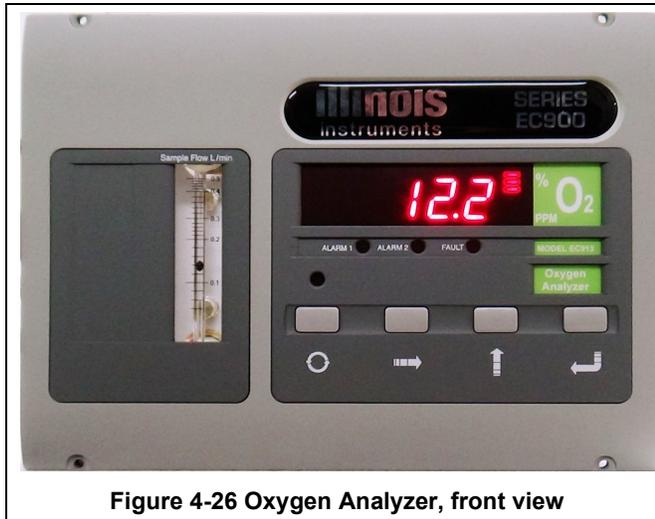
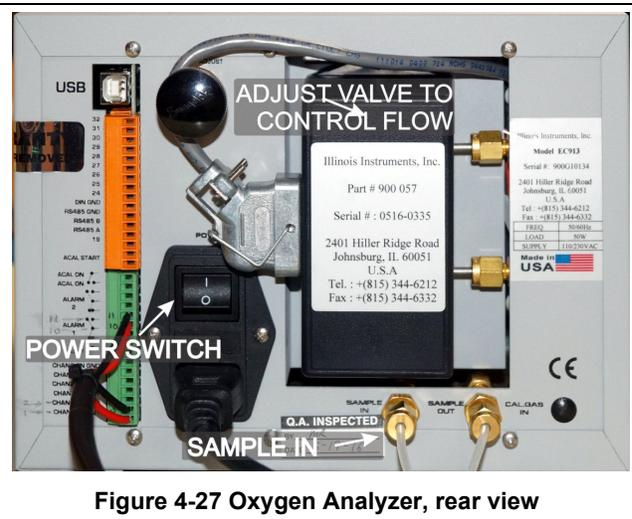

Figure 4-26 Oxygen Analyzer, front view
Figure 4-27 Oxygen Analyzer, rear view
On the Process screen use O2 Sampling popup screen to start analyzer, Figure 4-24. Click on O2 Port Select to open popup. If the analyzer does not start when enabled on the popup screen, check that the power switch in the back of the analyzer is in the up position (ON), Figure 4-27.
While Oxygen analyzer is running verify the sample flow on the flowmeter on the front of the analyzer is correct, Figure 4-26. Default is 0.1 to 0.15 L/min. If necessary, adjust the valve on the back of the analyzer to desired sample rate. Figure 4-27 shows the control valve on the rear of the oxygen analyzer. Once set, this valve seldom needs to be adjusted.